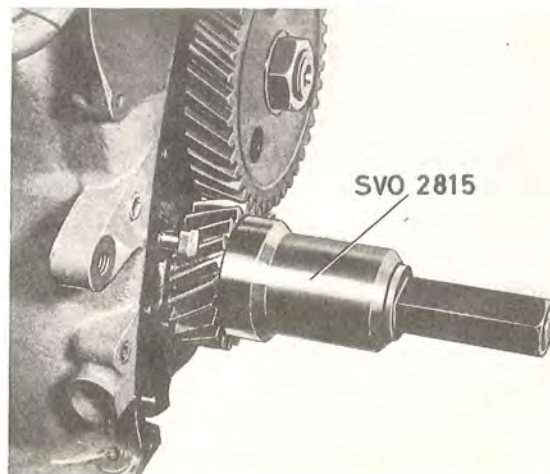

Fig. 2-36. Fitting crankshaft gear
6. Refit the crankshaft with tool SVO 2815, see Fig. 2-36.